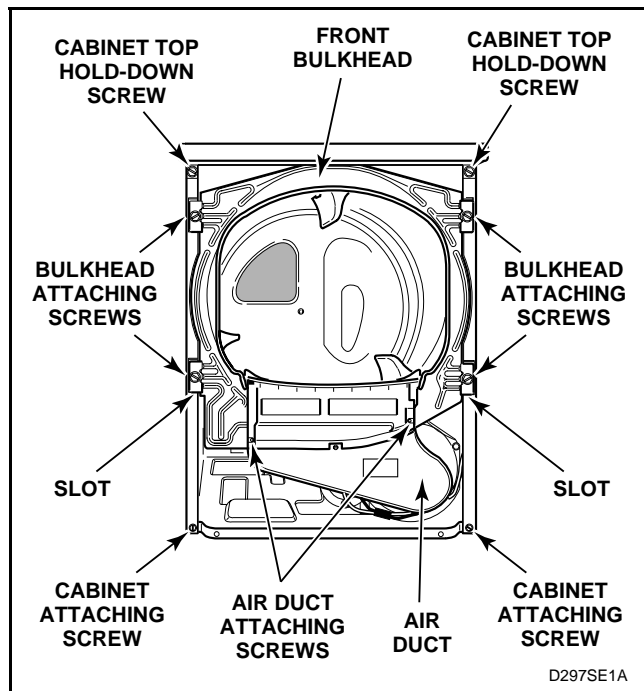

Figure 27
- Remove four screws holding bulkhead to front flange of cabinet and lift complete bulkhead assembly out of slots in cabinet. See *Figure 27*.
- f. Remove four screws holding bulkhead to front flange of cabinet. Then, lift complete bulkhead assembly out of slots in cabinet. See *Figure 27*.
- Remove four screws holding bulkhead to front flange of cabinet. Then lift complete bulkhead assembly out of slots in cabinet. See *Figure 27*.
- Remove two cabinet top hold-down screws. See *Figure 27*.